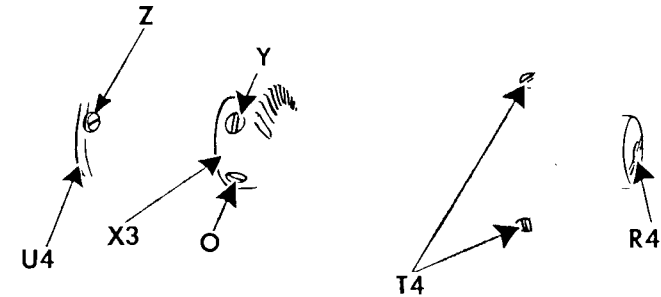

Fig. 65. Loosening the Feed Eccentric
9. Remove the feed timing screw **Y**, **Fig. 65** and loosen the set screw **O**, **Fig. 65**, in the feed-lifting-eccentric-and-bevel-gear, **X3**, **Fig. 65**.
10. Remove the timing screw **Z** and loosen set screws in the feed eccentric **U4**, **Fig. 65**.
11. Remove arm shaft screw **R4**, **Fig. 65** from machine pulley end of arm shaft.
12. Loosen the two set screws **T4**, **Fig. 65** and remove the machine pulley.